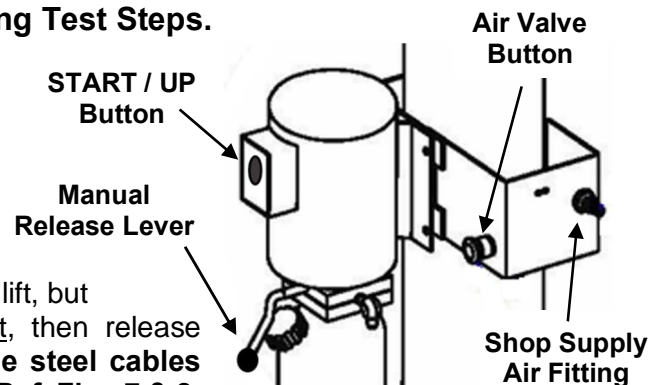

Fig. 30
- 1) **To Cycle Test Lift**, first turn on 220VAC electrical supply to Power unit and connect shop air to Quick Disconnect Air Fitting on Control Bracket. Ensure shop air supply to Air Fitting is between 90 - 115 PSI for proper Latch operation, Fig. 30.
- 3) **To Bleed Hydraulics**, cycle the lift  $\pm$ Up & Down fully 2 to 3 times to bleed (remove air) from the hydraulic system or until the lift lowers smoothly. **OPERATION NOTE:** To Lower Lift press the Manual Release Lever to release hydraulic pressure, while at the same time pressing the 'Red' Button on the Air Valve to release latches allowing lift to lower without engaging Latch Racks, Fig 30.